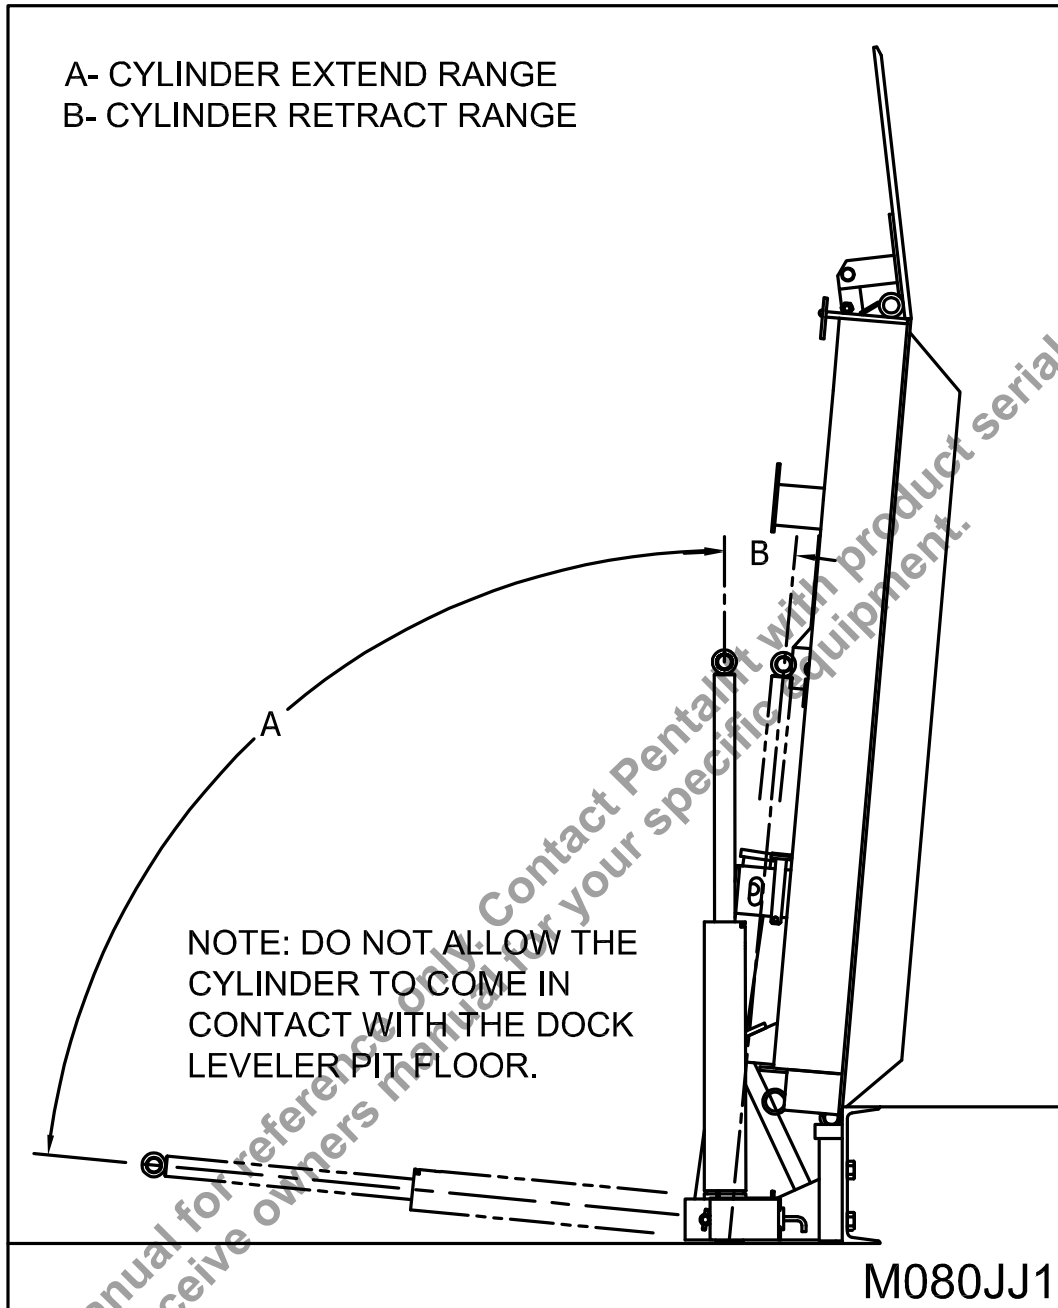

Figure 6: Cylinder Position Range for Extending/Retracting
5. With the upper lift cylinder pin removed, position the hydraulic lift cylinder leaning over center towards the front of the pit to extend the cylinder, or over center towards the rear of the pit or towards the deck plate to retract the cylinder (See “Figure 6: Cylinder Position Range for Extending/Retracting” on page 8). This positions the limit switch activating cams to allow use of the control panel to fully extend and fully retract the lift cylinder. Note: Make sure that during the extension and retraction of the hydraulic lift cylinder, the positioning of the cylinder avoids contact with any objects.